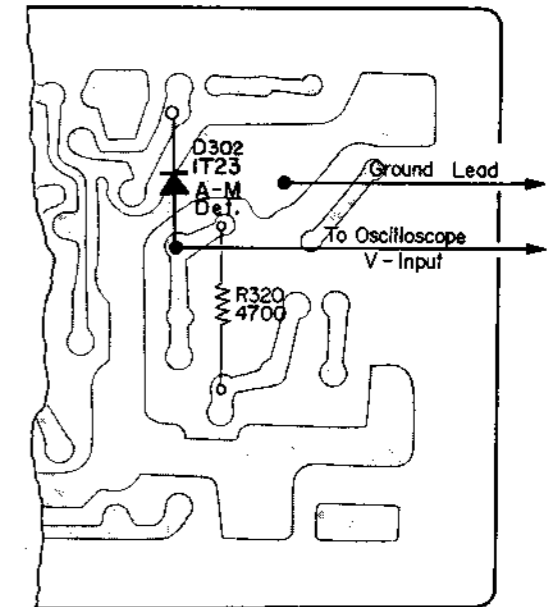

Fig. 3-10 A-M I-F Adjustment Test Point
- (1) Remove the chassis cover.
- (2) Solder a hook-up wire directly to resistor R320 (4.7 k Ω) from the conductor side on the A-M-CP-I-F board as shown in Fig. 3-10.